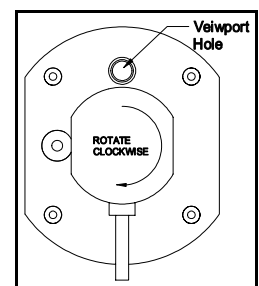

Figure 8
- Press the ballast against the mounting base and rotate the ballast assembly clockwise until it stops. (See Figure 8)